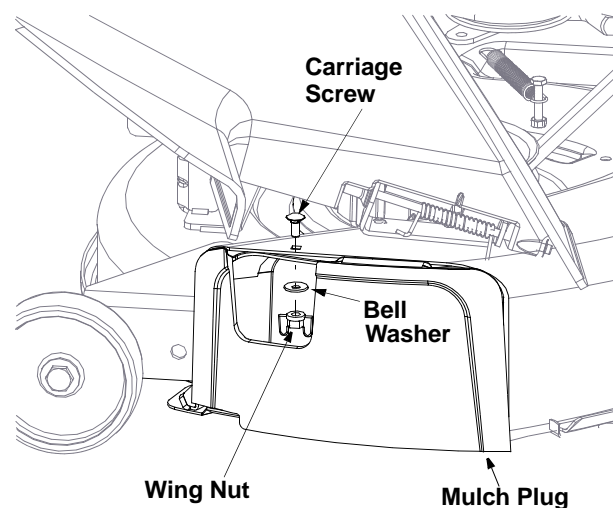

Figure 6
- To operate the cutting deck without mulching, on models so equipped, simply remove the mulch plug by unthreading the plastic wing nut which fastens it to the cutting deck. See Figure 6. This will allow the clippings to discharge through the side opening.